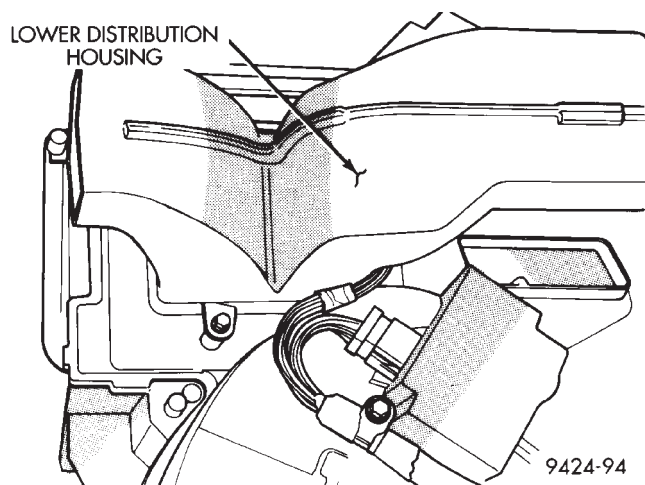

Fig. 96 Lower Distribution Housing
(24) Install lower distribution housing (Fig. 96).